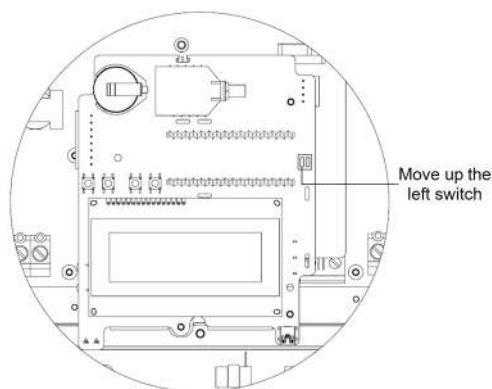

Figure 22: RS485 termination switch on the inverter communication board
- Inverter communication board (Figure 22):